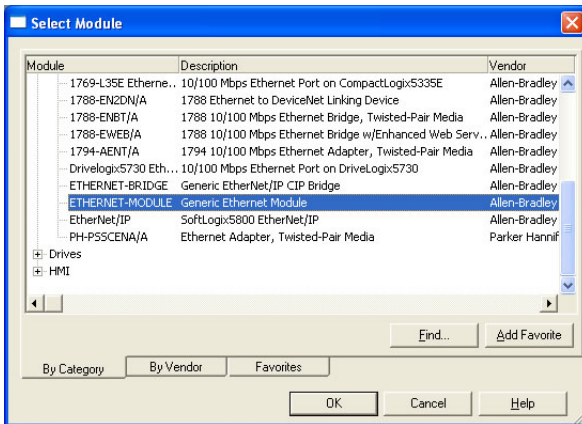

Figure 85: Adding a New Generic Ethernet Module
- 3) Choose “Generic Ethernet Module” in the Select Module dialog box and click “OK”. Refer to Figure 85.